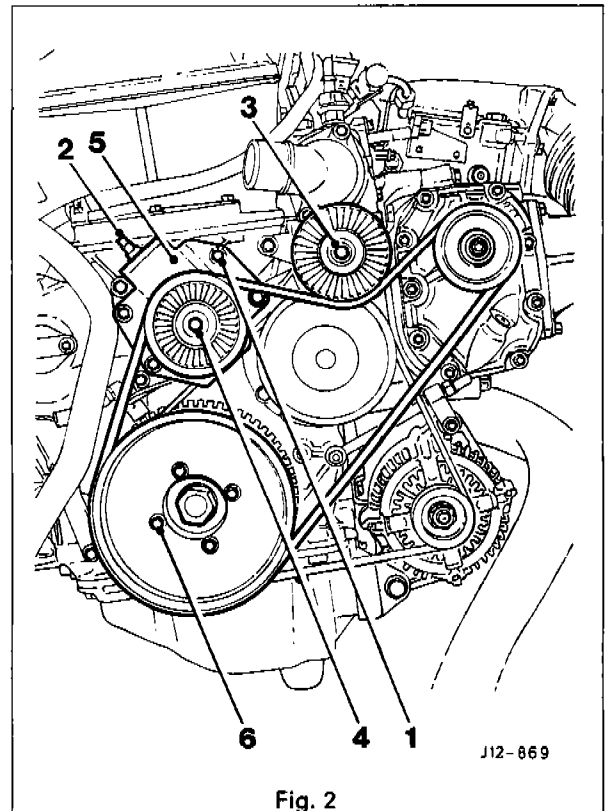

Fig. 2
- Remove the bolts (6 Fig. 2) securing the supercharger / compressor pulley to the crankshaft damper.